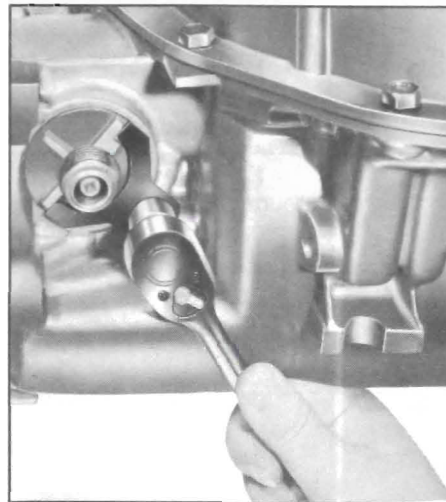

Figure 5-505
3. Remove the speedometer driven gear attaching screw and retainer. See Figure 5-505.